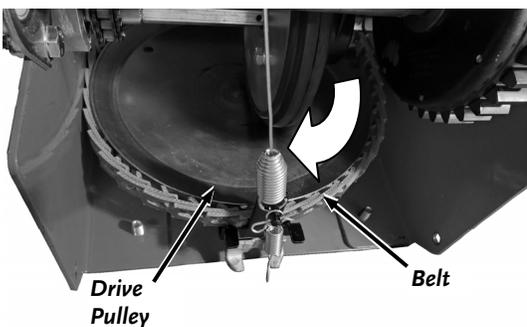

Figure 53
13. Route the new Linked Belt onto the Drive Pulley in a clockwise rotation (**Figure 53**).